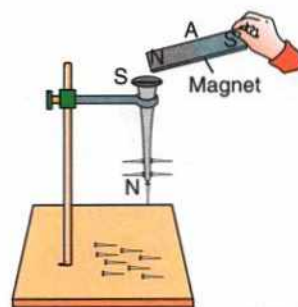

Fig. 6.10 Some pins cling to the nail
- (ii) Now bring one pole (say north pole) of a magnet A near the head of the nail as shown in Fig. 6.10. You will notice that now some pins begin to cling to the nail. This shows that in the presence of the magnet, the nail has become a magnet.